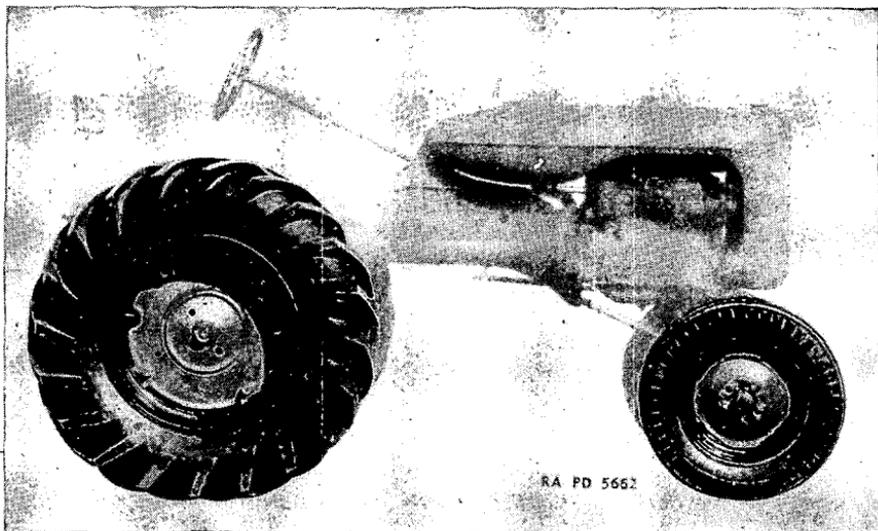

FIGURE 25.—Front and rear wheels.
**61. Front wheels.**—*a. General.*—The front wheels (fig. 25) are of the pressed steel type with drop center rim riveted to the wheel body. Each wheel is secured to a front wheel hub by five hub bolts. Front tires are 5.00 by 15 inch size, ribbed industrial type. Proper inflation pressure is 28 p. s. i.
*b. To change front tires.*—(1) Jack up the front wheel.